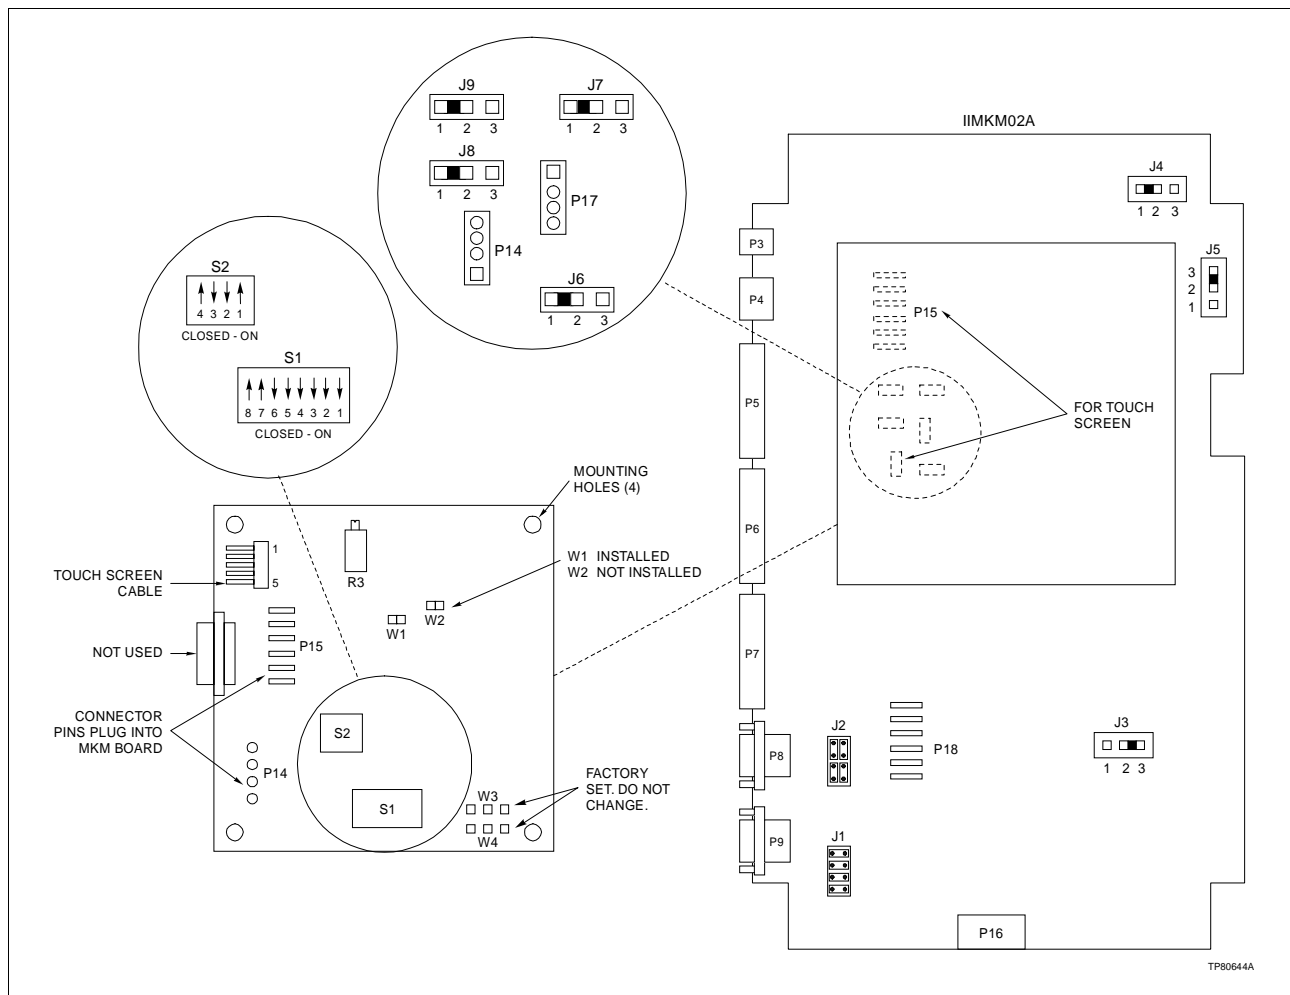

Figure 3-11. Touch Screen Controller Card Switch/Jumper Settings
Jumpers J6 through J9 on the IIMKM02A keyboard module control the touch screen option (Fig. 3-11).
2. Switches S1 and S2 on the touch screen controller board should be factory set as shown in Figure 3-11.